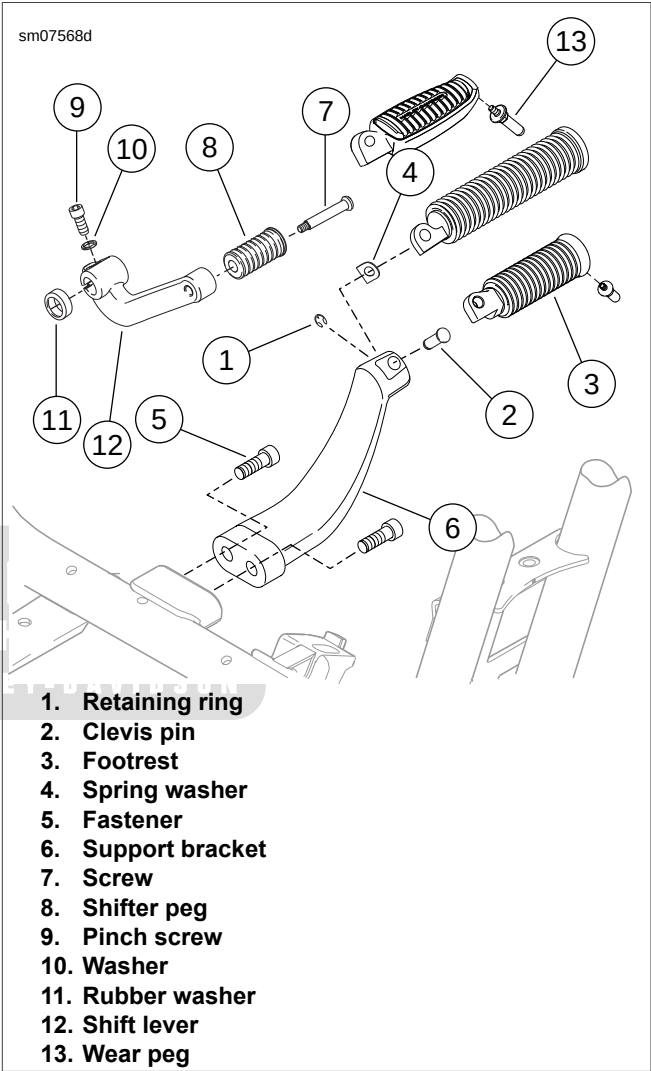

Figure 2-231. Left Footrest and Shift Lever
1. See Figure 2-231. Remove retaining ring (1), clevis pin (2), footrest (3) and spring washer (4). Discard retaining ring.
2. Remove two screws (5) and left rider footrest support bracket (6) from frame.
3. Remove screw (7) and shifter peg (8).
4. Remove pinch screw (9) and washer (10). Remove shift lever (12) and rubber washer (11).